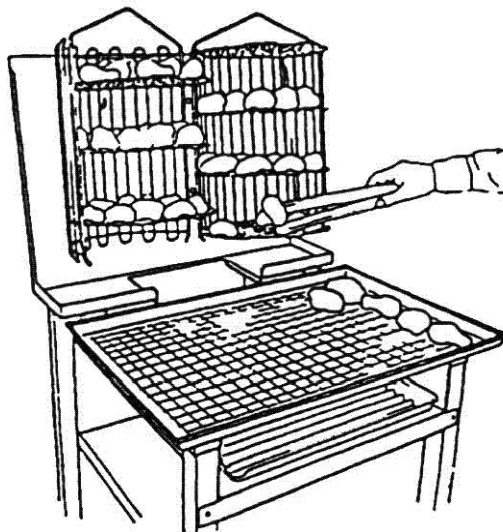

FIGURE 12
8. UNLOAD BASKET (FIG. 12). Place cooked products on corrugated tray and turn cavity (bone) down where applicable. Place tray in holding cabinet.